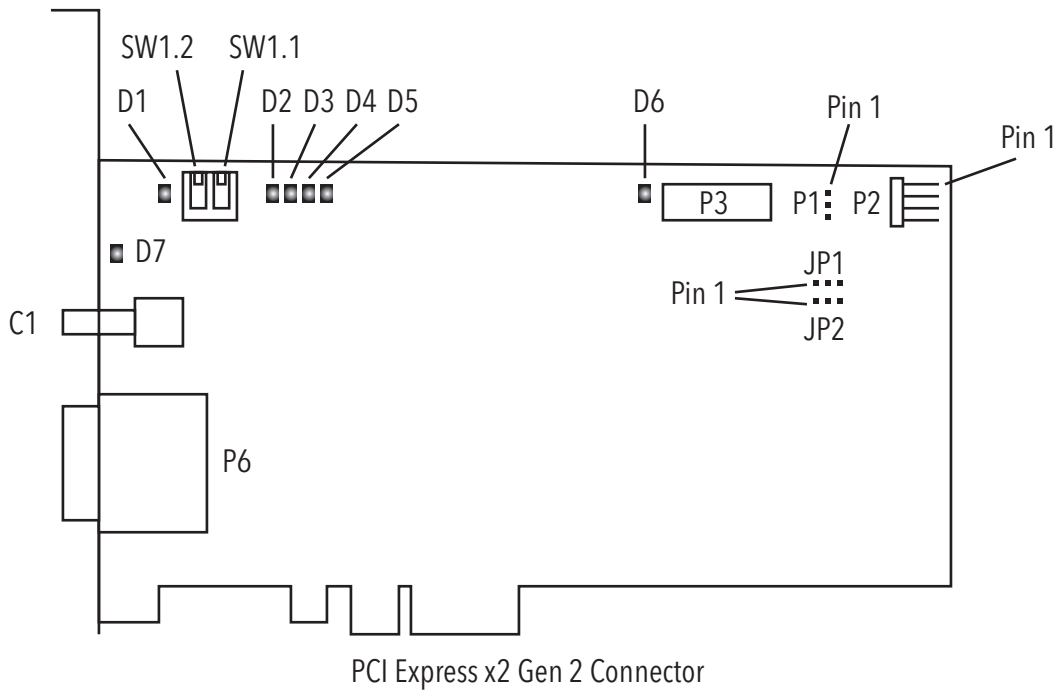

Figure 14-1 Aon-CXP Board Layout
Aon-CXP1	Figure 14-1
Figure 14-1 shows the locations of these connectors. The following sections show the details of each of these connectors.
*Note: This jumper is marked "P1" on the laminate. There is another jumper on the Aon marked JP1, which serves a different function. Please see Figure 14-1 for the location of the Jumper P1.*